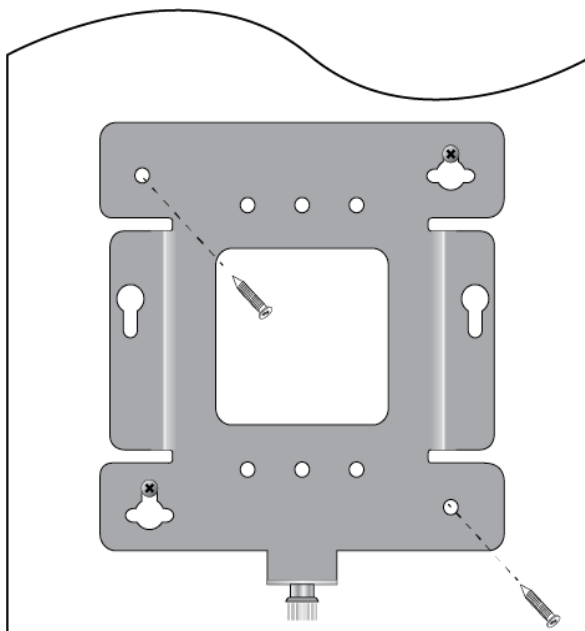

Figure 19. Securing the Mount Bracket
9. Install and tighten two M4 screws (not provided) in the holes prepared in Step 8. Refer to Figure 19. The bracket installation is now complete.